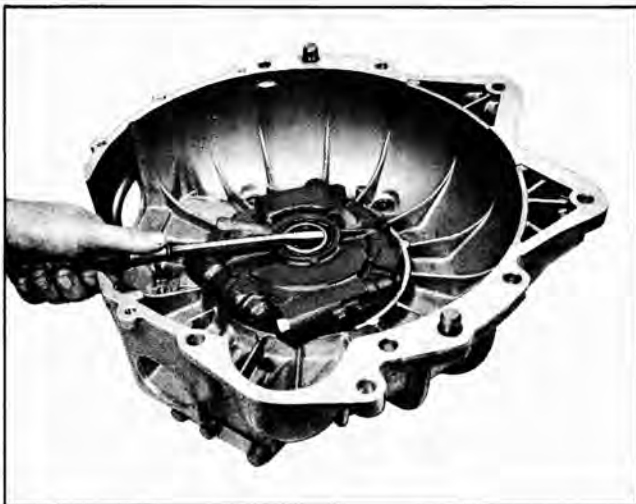

Fig. 52 Removing Front Seal
4. If replacement is necessary, remove and discard front seal by bending the entire outer edge of the seal in toward the center with a punch or screwdriver. The seal can then be removed with pliers or by prying out with a long screwdriver as shown in Fig. 52.